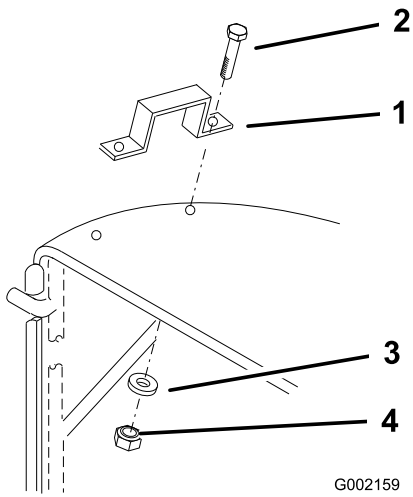

Figure 6
5. Push 2 bolts (1/4 x 1 inch) through each handle and the fabric from the outside, and secure them with 4 washers (1/4 inch), and locknuts (1/4 inch) as shown in Figure 6.